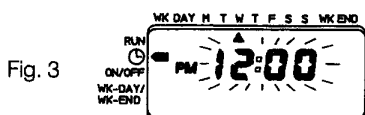

Fig. 3
- iii) Press the ENTER button. The TIME OF DAY WILL now flash (see figure 3).